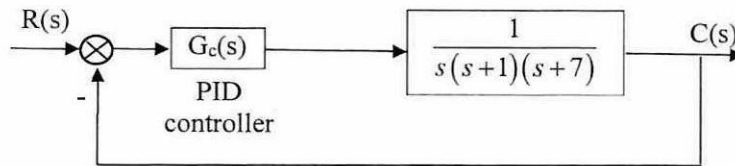

Figure Q1(c): A simple PID control system
- (c) Consider the control system shown in **Figure Q1(c)**. Examine a Ziegler-Nichols tuning rule for the determination of the values of parameters K_p , T_i and T_d . (10 marks)
- Q2.** (a) State **two (2)** advantages and **two (2)** disadvantages of Nyquist diagram. (4 marks)